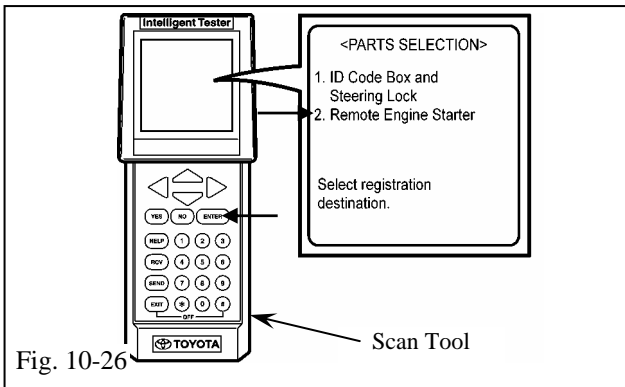

Fig. 10-26
- (aa) Select “Remote Engine Starter” in the Parts Selection menu with the scroll key, then press the “ENTER” button. (Fig. 10-26)